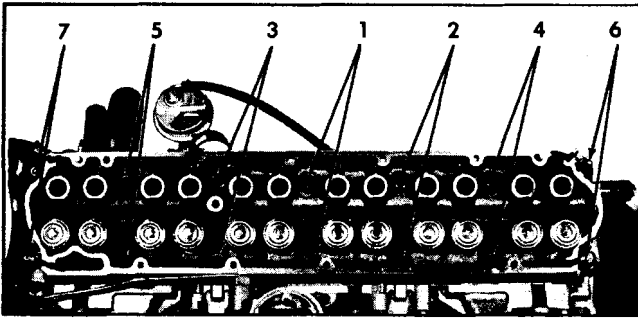

Fig. 6-27 Cylinder Head Bolt Tightening Sequence
4. Tighten cylinder head a little at a time with a torque wrench. Tighten center bolts and then end bolts (Fig. 6-27). The final torque should be 95 lb. ft.